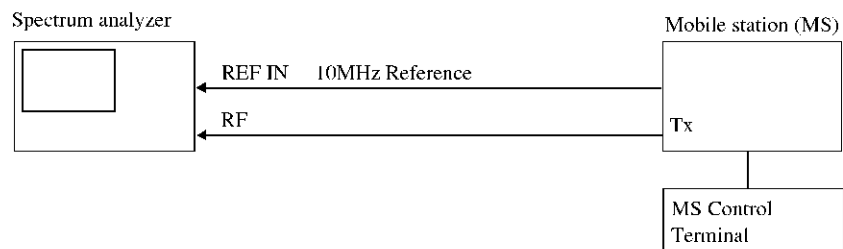

Figure 2-19 Setup for CCDF Measurement
1. Connect the unit under test as shown in Figure 2-19.